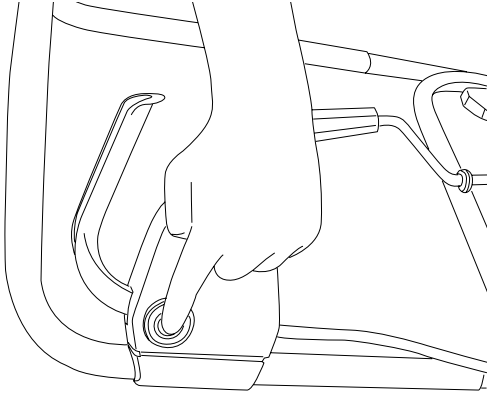

Figure 15
1. To power on, first press the Safety Switch Button found along side the switch housing (Fig. 15).